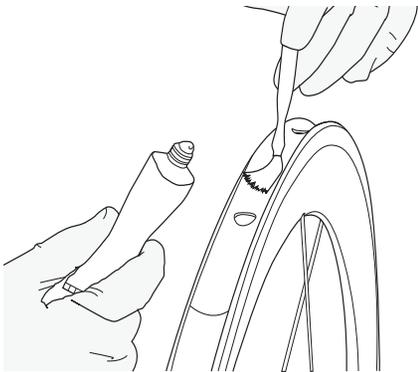

Figure 22. Apply a thin layer of glue to the rim's tire bed.
3. With the acid brush, apply a thin layer of glue to the rim's tire bed, edge to edge, all the way around the rim (Figure 22).